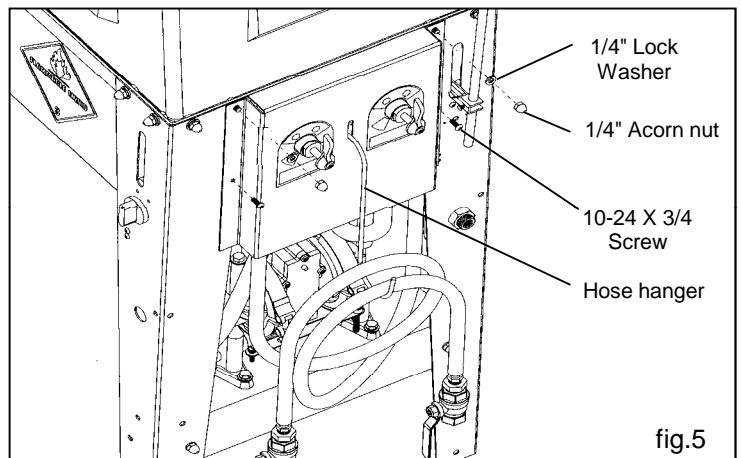

fig.5
Attach the panel to the stand using (2) 10-24 x 3/4 screws (2) 10-24 lock nuts, (2) 1/4" lock washers and (2) 1/4" acorn nuts (see fig.5).
Insert the hose hanger into 1/4" slot in the panel (see fig. 5).